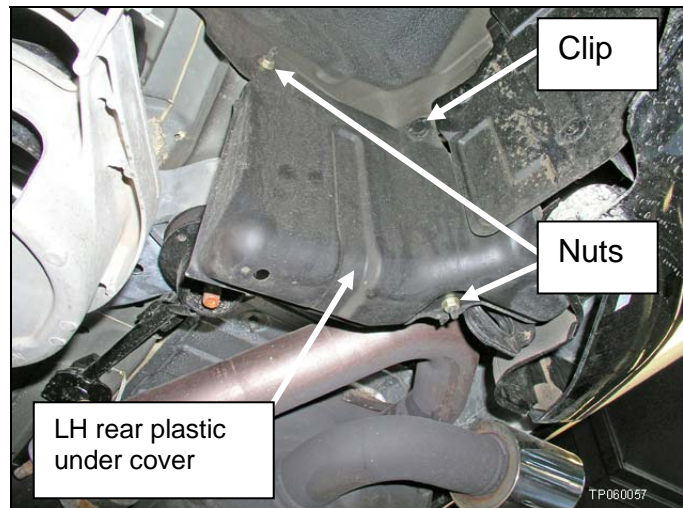

Figure 6
9. On the driver's (LH) side: remove two nuts and one clip and remove the rear plastic under cover (see Figure 6).